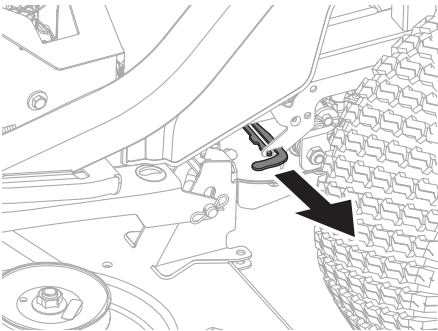

Figure 2
1. To engage the transmission bypass tabs, pull tab out. Repeat on opposite side. See Figure 2.